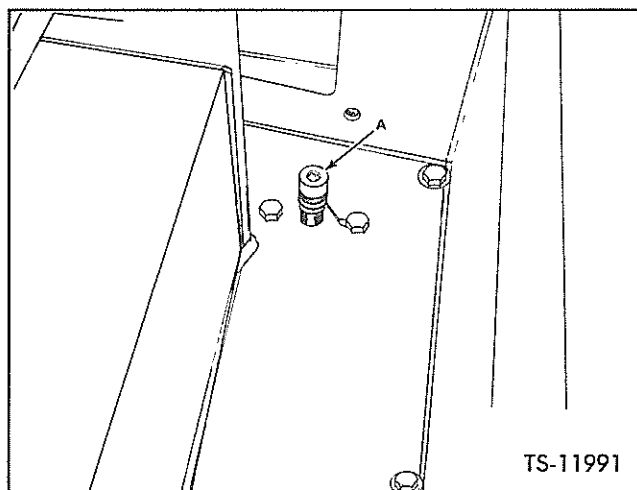

Fig. 22. Transmission Clutch Pressure
2. Install an accurate gauge, 0 to 400 psi (0 to 28 kg/cm²) capacity in the quick disconnect fitting in rear of cockpit as shown in Figure 22 Item A.